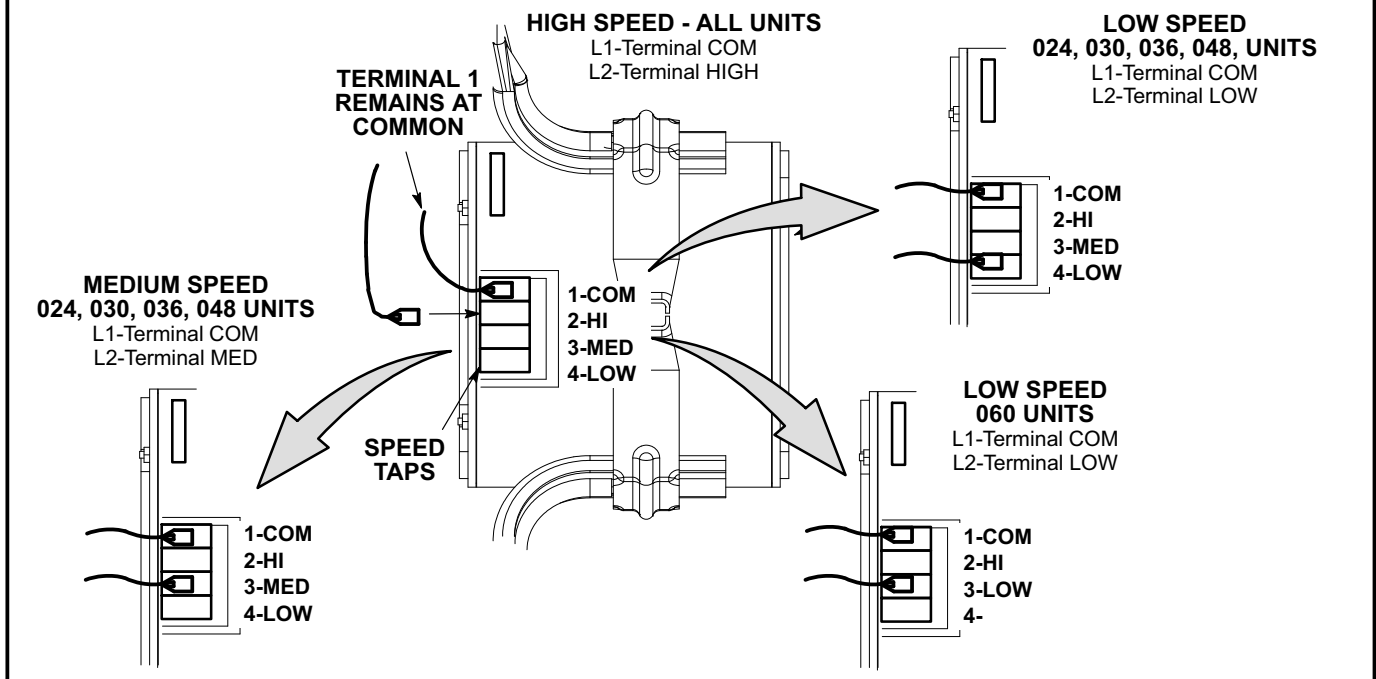
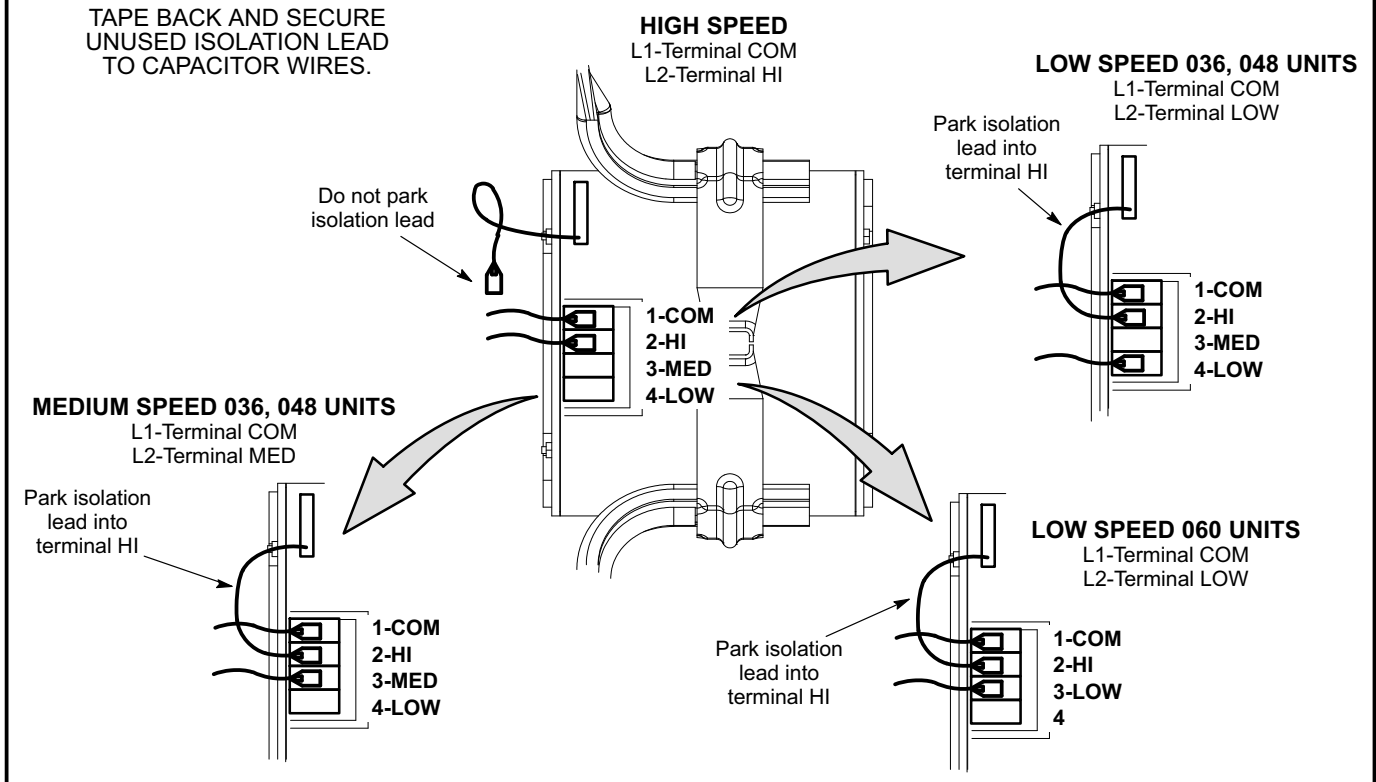

FIGURE 8
FIGURE 9
- 4- Use direct drive blower tables, the measured static pressure and the factory-set blower speed to determine CFM. If CFM is lower or higher than the design specified CFM, move the leads as shown in figure 8 for 208/230 volt units and figure 9 for 460/575 volt units.